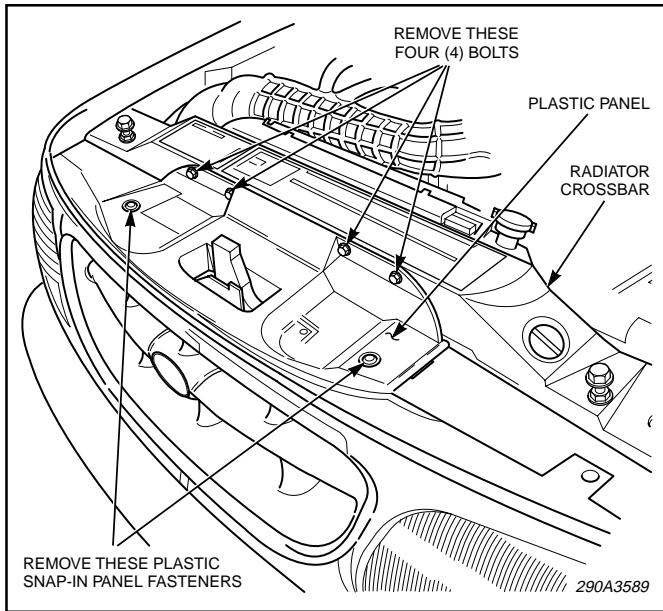

Figure 3.
a. Raise the vehicle hood. See figure 3. Locate the plastic panel between the radiator crossbar and the grille fascia.